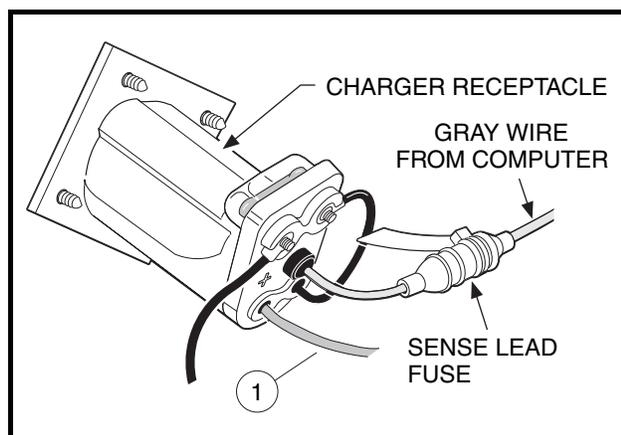
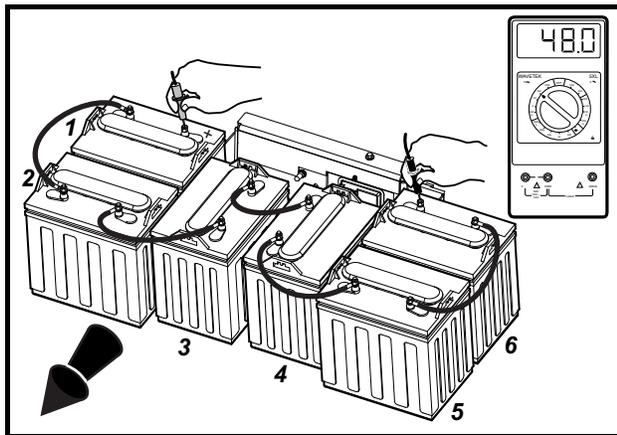

Figure 3-11 Receptacle Wire Connections (all vehicles except Precedent)
Figure 3-16 Battery Voltage Test – Style C Battery Configuration
- 3.2. Make sure the two nuts that secure the two 10-gauge black wires to the receptacle fuse assembly are tight (**Figure 3-11, Page 3-16**).
- 4.4. **Style C 6 x 8-Volt Precedent only:** With a multimeter set to 200 volts DC, measure the voltage of the battery pack between the positive (+) post of battery no. 1 and the negative (-) post of battery no. 6 (**Figure 3-16, Page 3-18**).
1. Check the batteries and the receptacle to ensure that they are wired in the correct polarity (**Figure 3-11, Page 3-16 through Figure 3-16, Page 3-18**). Also check the voltage and polarity at the receptacle.